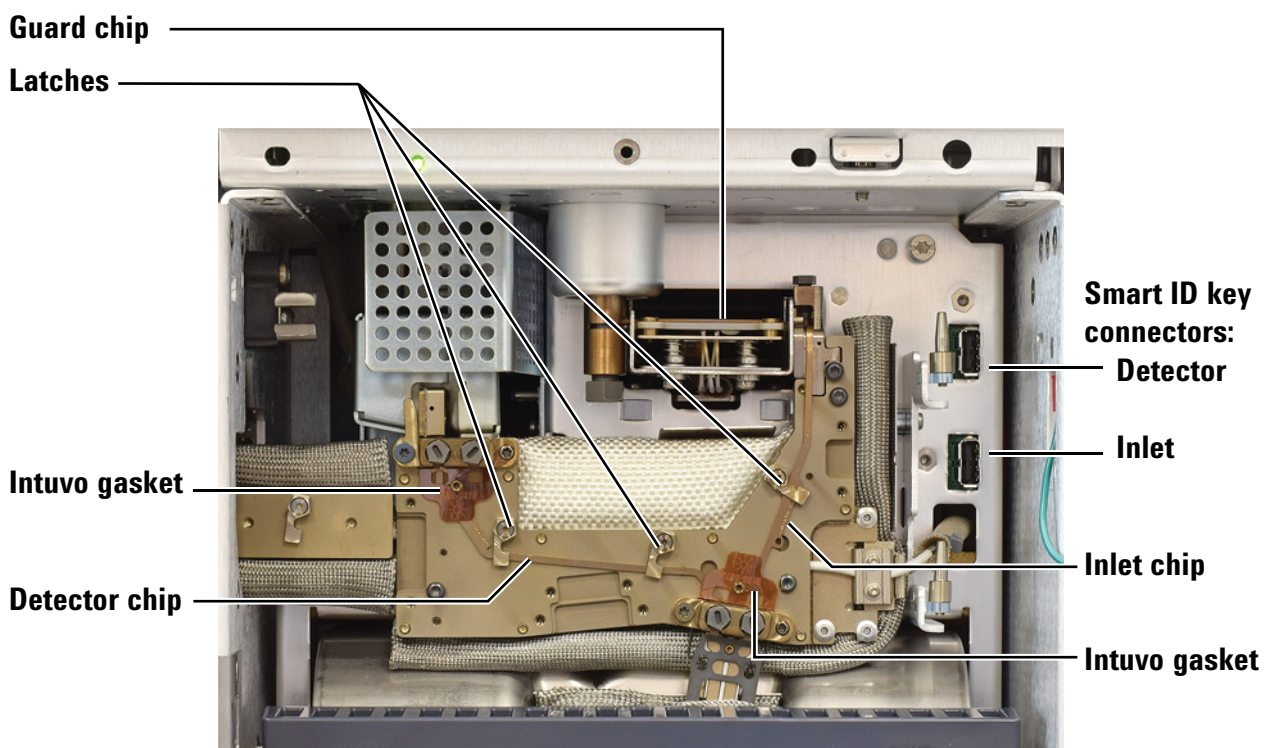

Figure 5 Intuvo bus components
Figure 5 shows the Intuvo major bus components.
- 11 Use a Torx driver to open the clips that hold the detector chip to the bus. See Figure 5.